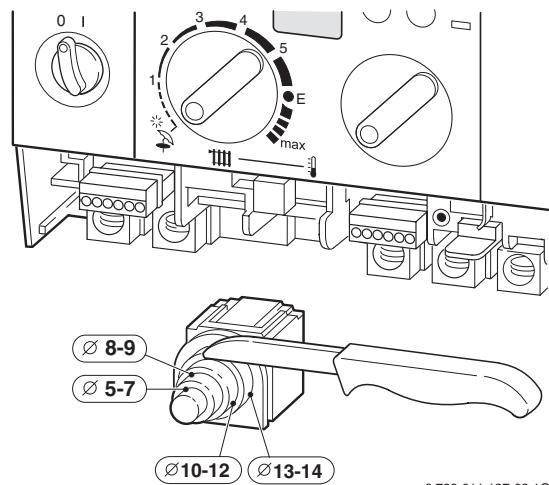

Fig. 28
- To maintain the splash-proof (IP) design: cut the cable grommet hole size to match the diameter of the cable, see fig. 28.